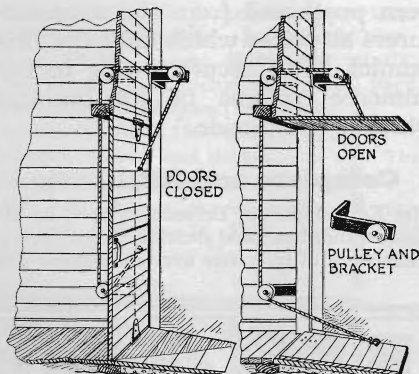

Fig. 3. Construction of garage doors that will close themselves after you have backed out
P. H. ASHBY, of Strathcona, Alberta, Canada, wins the \$10 prize this month with his garage door suggestion (Fig. 3). POPULAR SCIENCE MONTHLY awards \$10 monthly, in addition to regular space rates, for the best suggestion for motorists. Other contributions published are paid for at usual rates.